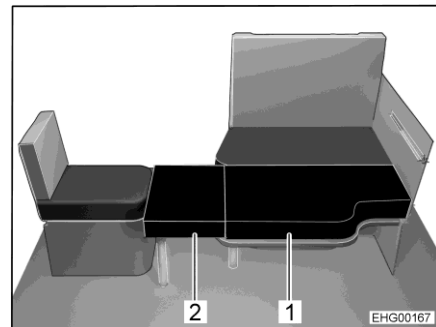
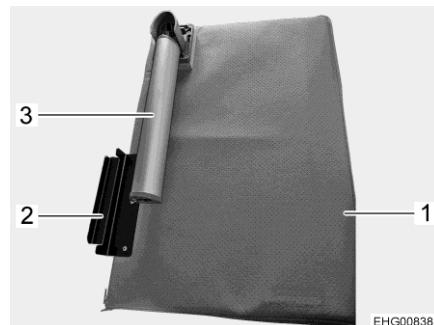

Fig. 77 After conversion
Fig. 78 Additional board
- Unfold the support foot (Fig. 78,3) on the additional board (Fig. 78,1).
- Attach the support bracket (Fig. 78,2) of the additional board to the individual seat and place the additional cushion (Fig. 77,2) on the table top.
- Place the second additional cushion (Fig. 77,1) on the table top.